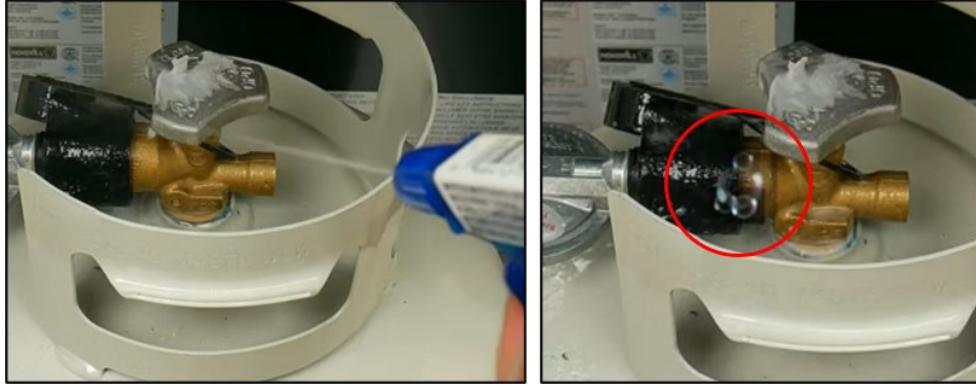

Figure 27 Leak Test Spray and Bubbles
3. Spray the soapy water solution on all joints of the gas delivery system (Figure 27)